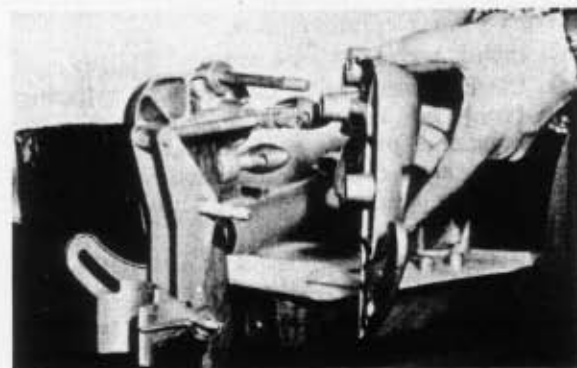

Figure 6-6
A. Clamp either of stern bracket assembly to edge of work bench and reassemble reversing the above procedure. (Refer Fig. 6-6).